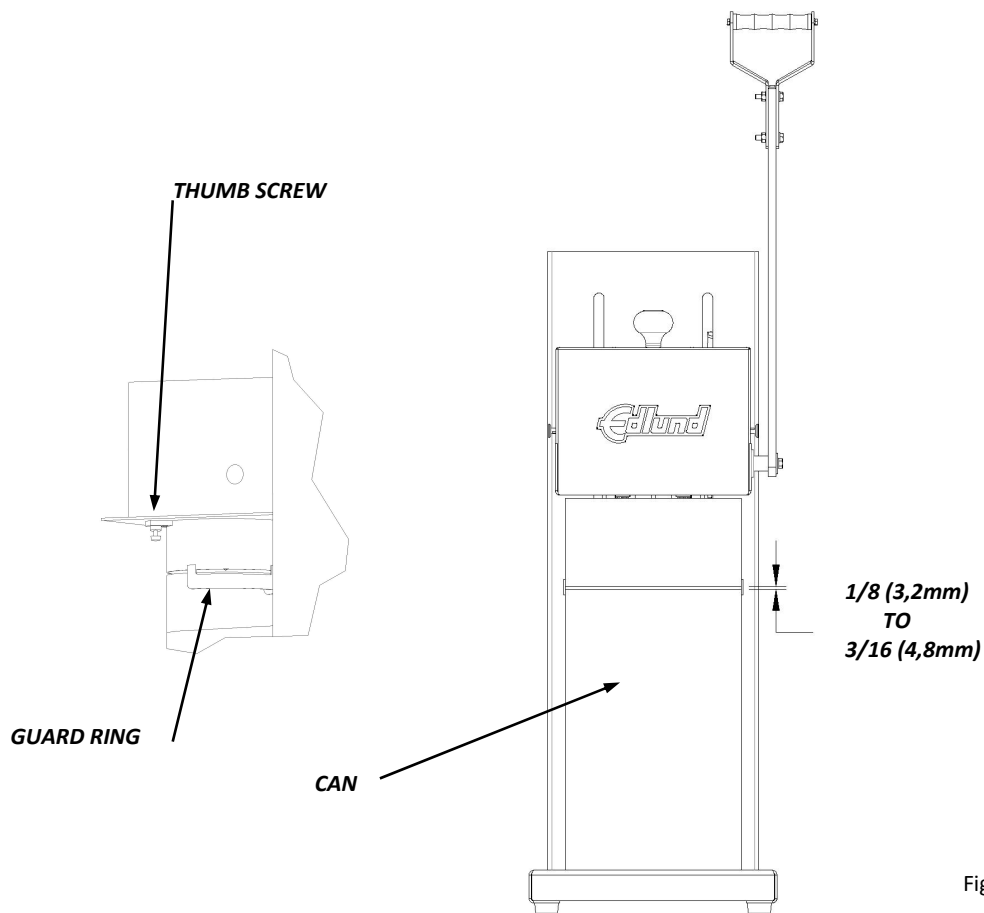

Figure 3
3. Insure the "T" handles are tight. They are located behind the head of the crown punch machine. The height, with the guard ring in place, must be such that when a can is in position under the crown punch, from the can seam to the lip of the guard ring is approximately 1/8 (3,2mm) to 3/16 (4,8mm), (Figure 3 on page 9).
1. With one hand, hold up on the guard ring (Figure 3 on page 9) and with the other hand, unscrew the two (2) Thumbscrews (Figure 3 on page 9).